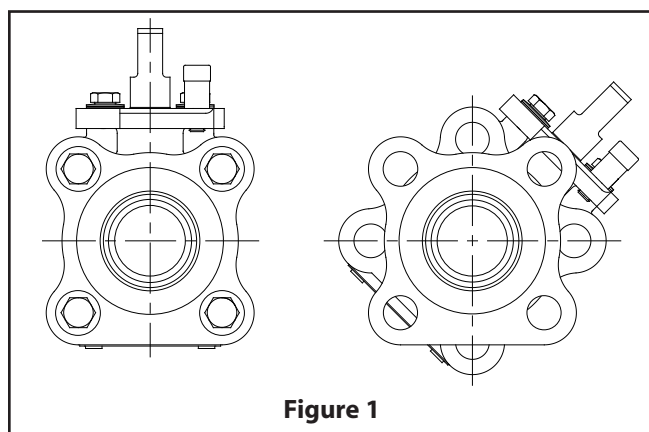
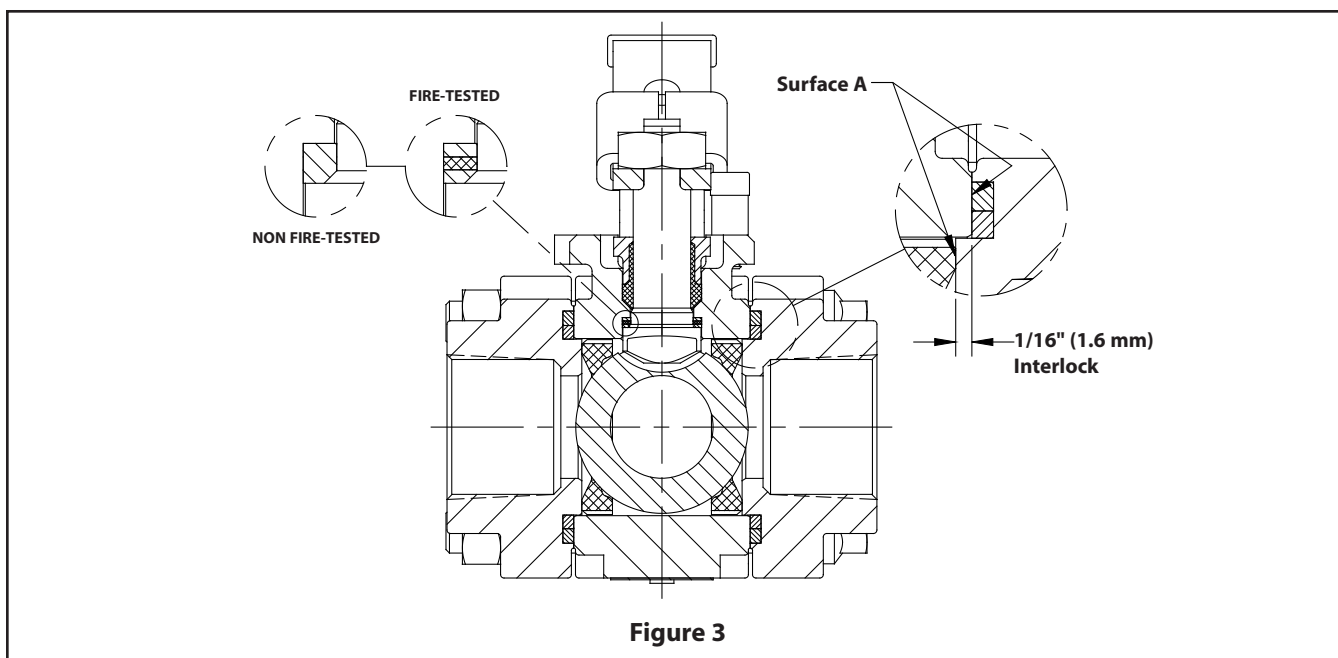

Figure 1
Figure 3
3. Remove the handle nut (16) and handle (17).
4. Loosen all four body bolts (52). Remove three from the valve. Leave the remaining bolt in place with the hex nut (53) backed off at least 1/4" (6.4 mm).
5. For positive alignment and ease of in-line assembly, each end cap is interlocked approximately 1/16" (1.6 mm) into the body as shown in **(Figure 3)**. To overcome this feature during in-line disassembly it is necessary to separate each cap at least 1/8" (3.2 mm) from the body. Sharply rap body and caps with a block of wood or plastic mallet to break loose body seal. Spread end caps and swing the body out of the line. If pipe does not allow simple spreading, remove the remaining body bolt and rotate center section per **(Figure 1)**. This will improve access to the end cap flange for ease of spreading. Swing the valve body (1) out from between the end cap (2). Be careful not to damage the sealing surfaces "A" **(see Figure 3)** at each end of the valve.
1. With the valve swung to the out-of-line position, insert from the inside of the body a stem bearing (13), a secondary stem seal (7), then another stem bearing (13) into the stem bore. For non Fire-Tite valves use one stem bearing (24). See **(Figure 3)** and parts list **(Figure 4)**.
8. Place an inner body seal (6) and an outer body seal (18) into the machined sealing groove of the body cap (2) (see Figure 3). **NOTE:** On those valves with metal seats (DH seat/seal code), there is a one piece body seal (6). Be certain that the groove and seal are clean.
13. Bolt the valve together with lubricated body bolts (52) and hex. nuts (53). Tighten these bolts evenly and alternately. (See Table 1 for the torques.)
14. Attach the handle (17) and secure it with the handle nut (16) applying the torque shown in (Table 3).